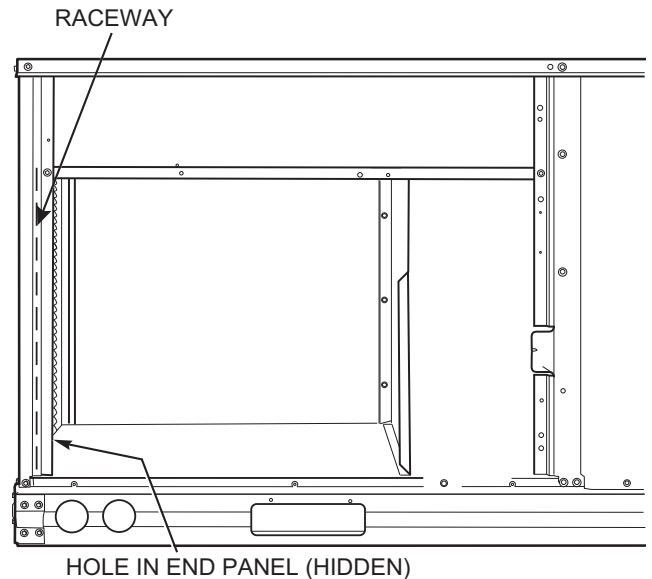

Fig. 29 — Field Control Wiring Raceway
Pass the thermostat control wires through the hole provided in the corner post; then feed the wires through the raceway built into the corner post to the control box. Pull the wires over to the terminal strip on the upper-left corner of the Unit Control Board. See Fig. 29.
2. Feed wires through the raceway built into the corner post (see Fig. 29) to the 24-v barrier located on the left side of the control box. The raceway provides the UL-required clearance between high-voltage and low-voltage wiring.
2. Feed wires through the raceway built into the corner post (see Fig. 29 on page 17) to the 24-v barrier located on the left side of the control box. The raceway provides the UL-required clearance between high-voltage and low-voltage wiring.